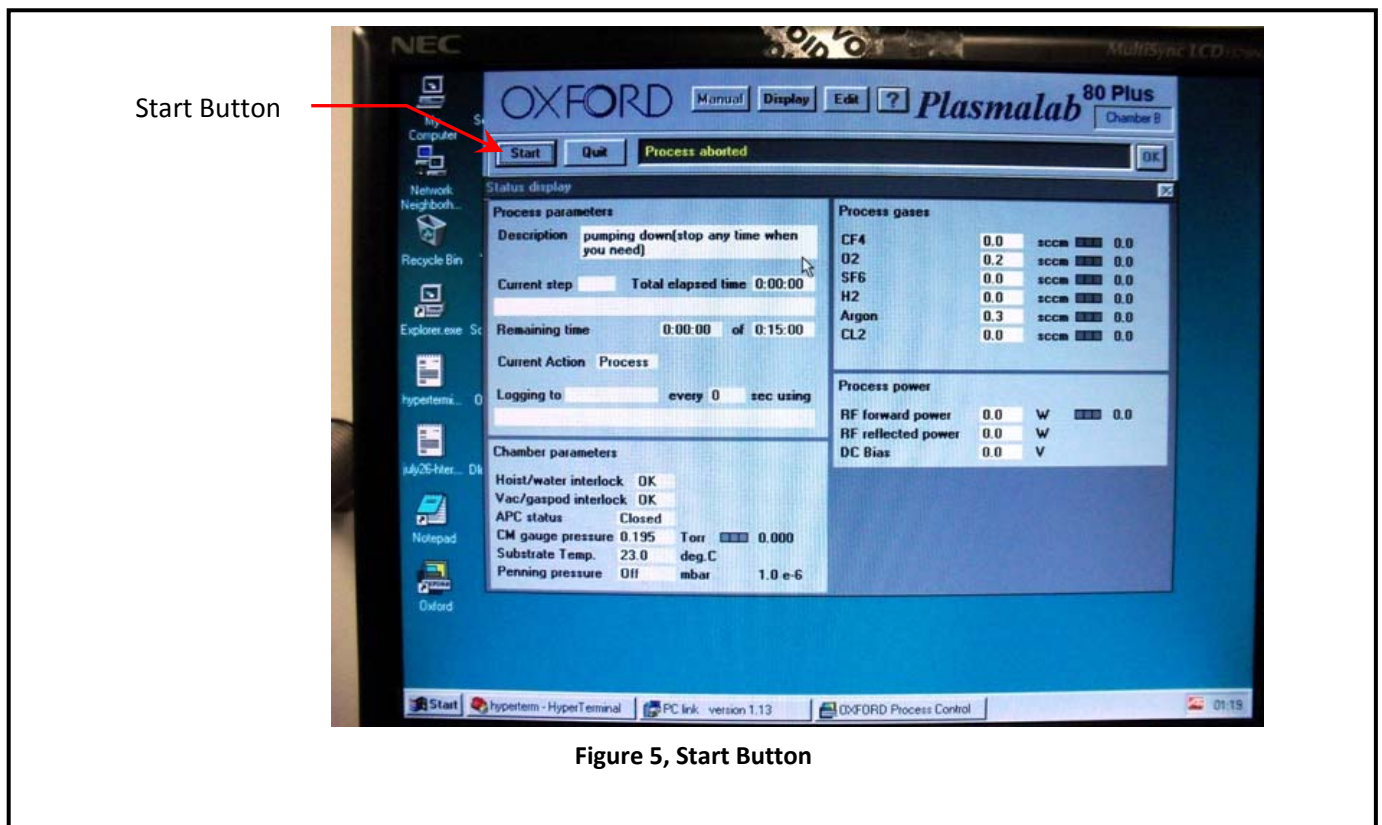

Figure 5, Start Button
- 7.1.3 Click Start. See *Figure 5, Start Button*.